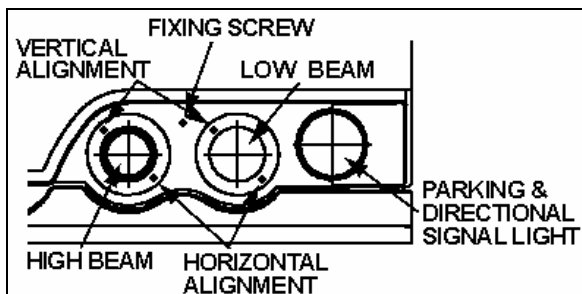

FIGURE 22: HEADLIGHT ASSEMBLY 06546
Headlight aim should be checked after installing a new bulb. Aiming can be performed without opening headlight assembly. Horizontal and vertical aiming of each module is provided by two adjusting screws that pivot the module in the housing for proper alignment (fig. 22). There is no adjustment for focus since the module is set for proper focus during manufacturing assembly.
- Make sure that headlight assembly fixing screw is properly fastened (Fig.22).
If beam is offset, a LOW CANDLES message will appear. Using vertical and horizontal alignment screws, adjust beam as needed (fig. 22).